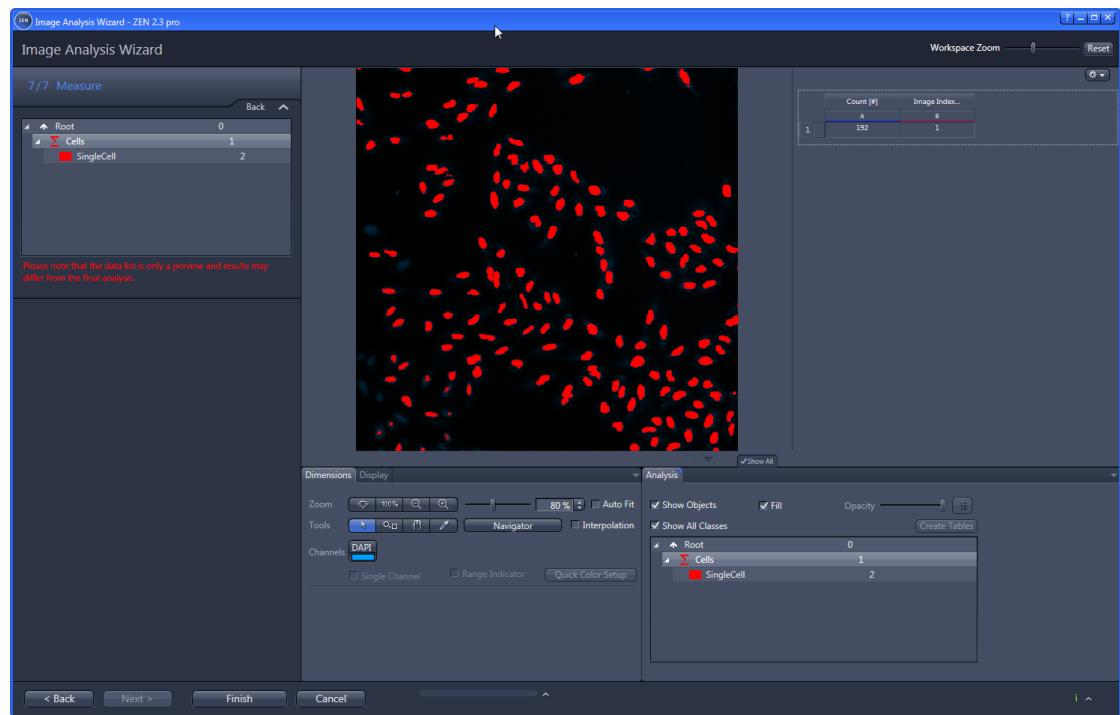

Figure 19: Image Analysis Wizard: Finalize and check the results
4. Finalize the image analysis pipeline and check the results (Fig. 19).